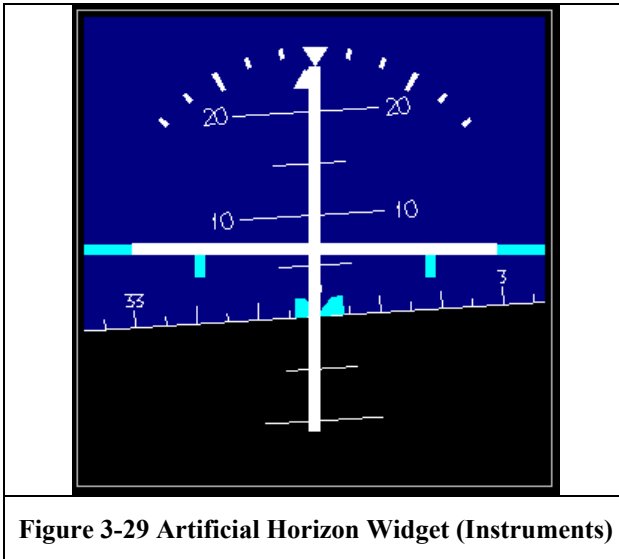

Figure 3-29 Artificial Horizon Widget (Instruments)
The **Artificial Horizon** display widget, shown in Figure 3-29 below, requires up to six (6) parameters from up to twelve (12) streams, including formulas and functions to become fully functional. The parameters include: *Bug Heading*, *Cue Pitch*, *Cue Roll*, *Heading*, *Pitch*, and *Roll*.